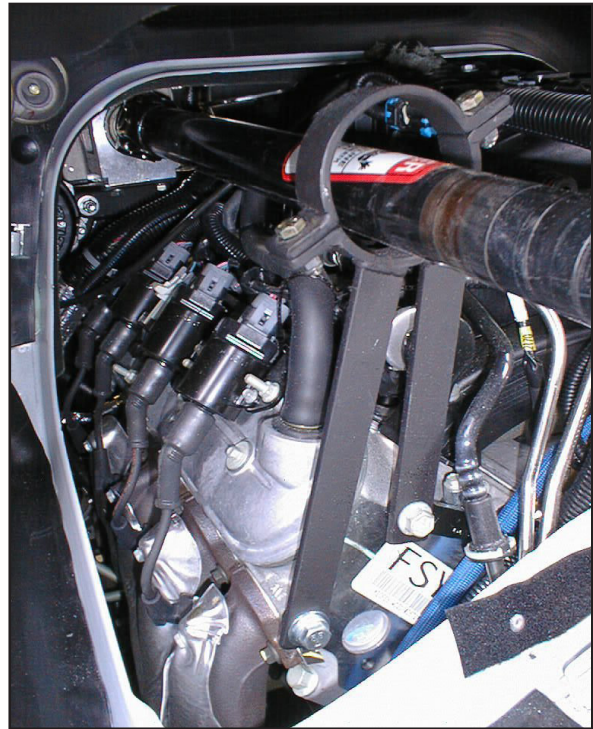

Figure 19. Install Safety Ring
16. Install the safety ring (fly strap) to the back of the driver side head (see Figure 19). Use the original bolt in back of head and the provided 10mm bolt for mounting. Leave the top of the safety ring off until the drive shaft has been installed.